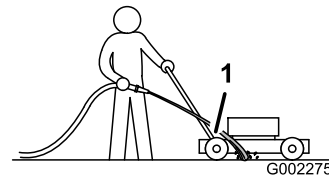

Figure 23
3. Hold the running garden hose at handle level and direct the water to flow on the ground just in front of the right, rear wheel (Figure 23).